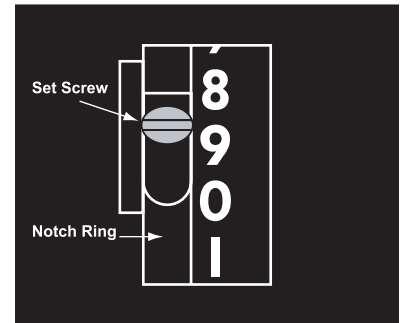

Figure 13b: Set Screw & Notch Ring
4. Use a screwdriver to loosen the set screw on the notch ring located on the left side of the units wheel (Figure 13b). This allows for the repositioning of the notch ring and units wheel.